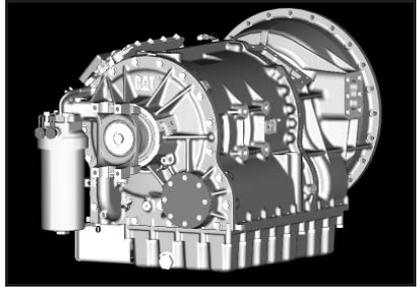

Fig. 1
2. Remove the P.T.O. rear aperture plate with an 18 mm socket. (**Fig. 1**)